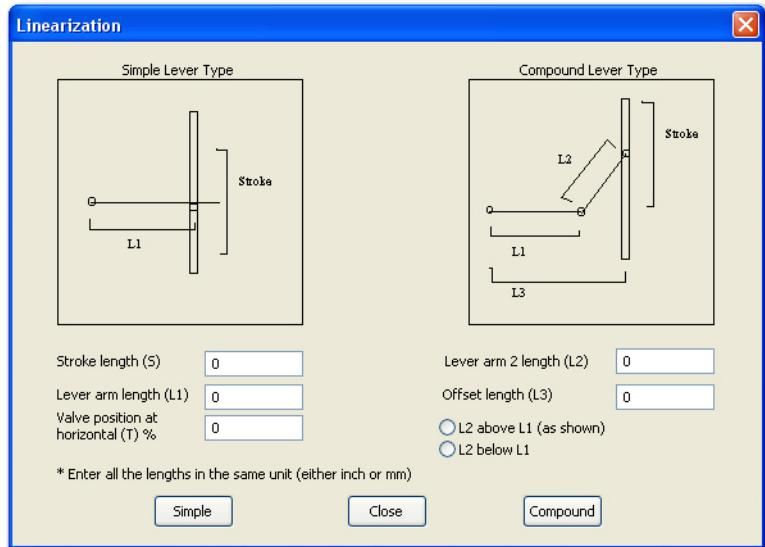

Figure 48 Linearization Dialog
4. Click **Linearization** and Figure 48 appears.